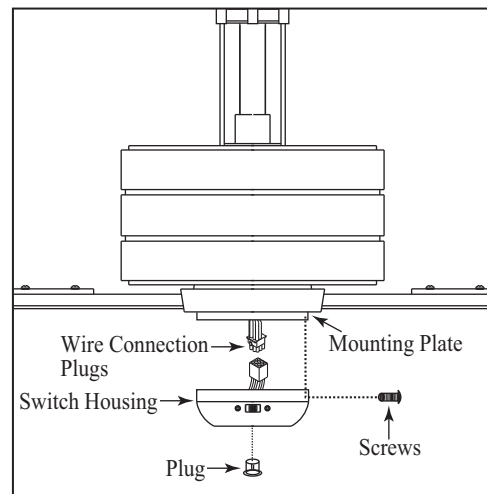

Figure 19
2. Attach the plug to the switch housing. (Fig. 19)
4. Install the switch housing to the mounting plate with screws provided. (Fig. 19)